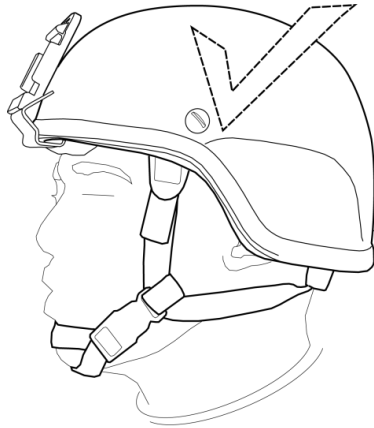

Figure 1. Properly Fitted ACH.
Proper fit is achieved when the helmet does not sit too high (crown pad does not contact head or too much of forehead is exposed) or too low (too low on brow or not compatible with eyewear, etc.) and is not too tight or too loose (Figure 1).
3. Evaluate the fit of the helmet. Figure 1 shows a properly fitted helmet.
5. Evaluate the height of the helmet. Using your hands, determine the height of the helmet relative to the ear canal openings and the eyebrows. The front rim should be no more than $\frac{1}{2}$ inch above the eyebrows. The bottom of the helmet should come to the top of the ear canal opening as shown in Figure 1.